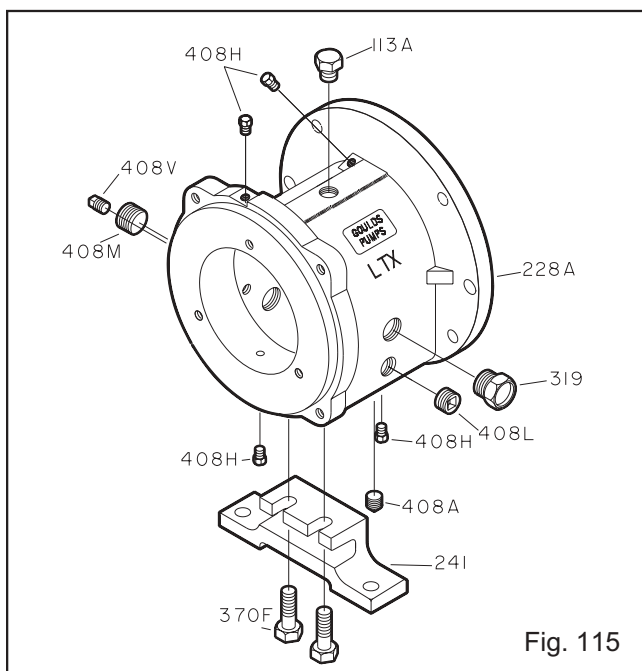

Fig. 115
1. Install the oil fill plug (113A), oil drain plug (408A), sight window (319), sight oiler plug (408J), four oil mist connection plugs (408H) or grease fittings (193) and grease relief plugs (113), and oil cooler inlet and outlet plugs or oil cooler (408L, 408M) in bearing frame (228) (Fig. 115).